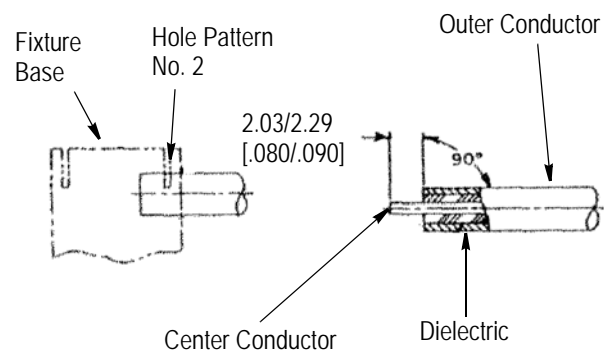

Figure 2
2. Place the saw in the saw slot and cut through the outer conductor and into the dielectric while rotating the cable. See Figure 2.
5. Trim the center conductor to the dimensions shown in Figure 2.